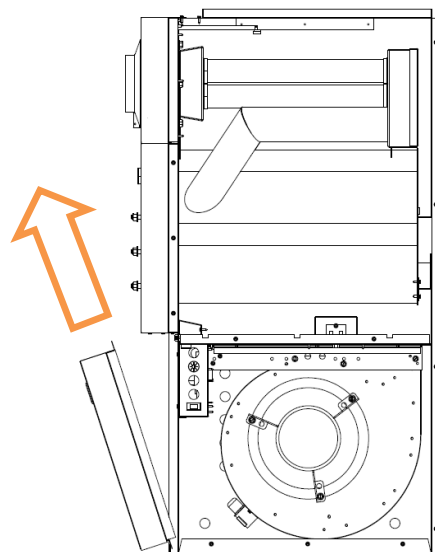

Figure 2
3) Open blower compartment (Figure 2).